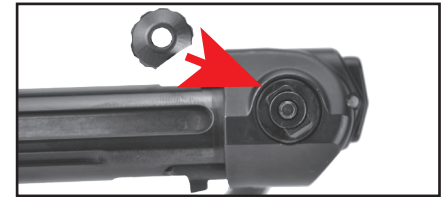

Figure 13
8. Slide the open end of the **Bolt Handle Cap** onto the **Bolt Handle Post** from the small end – see Figure 13.